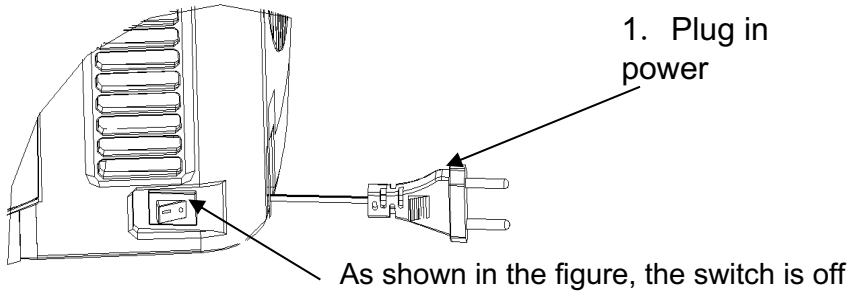

FIGURE 10
12. Cover the top cover (see the label on the top cover for details). Set the power switch to "-" to start the power supply of the beer machine, and the beer machine starts to work (set the power switch to 0 to turn off the power supply) (as shown in Figure 10).